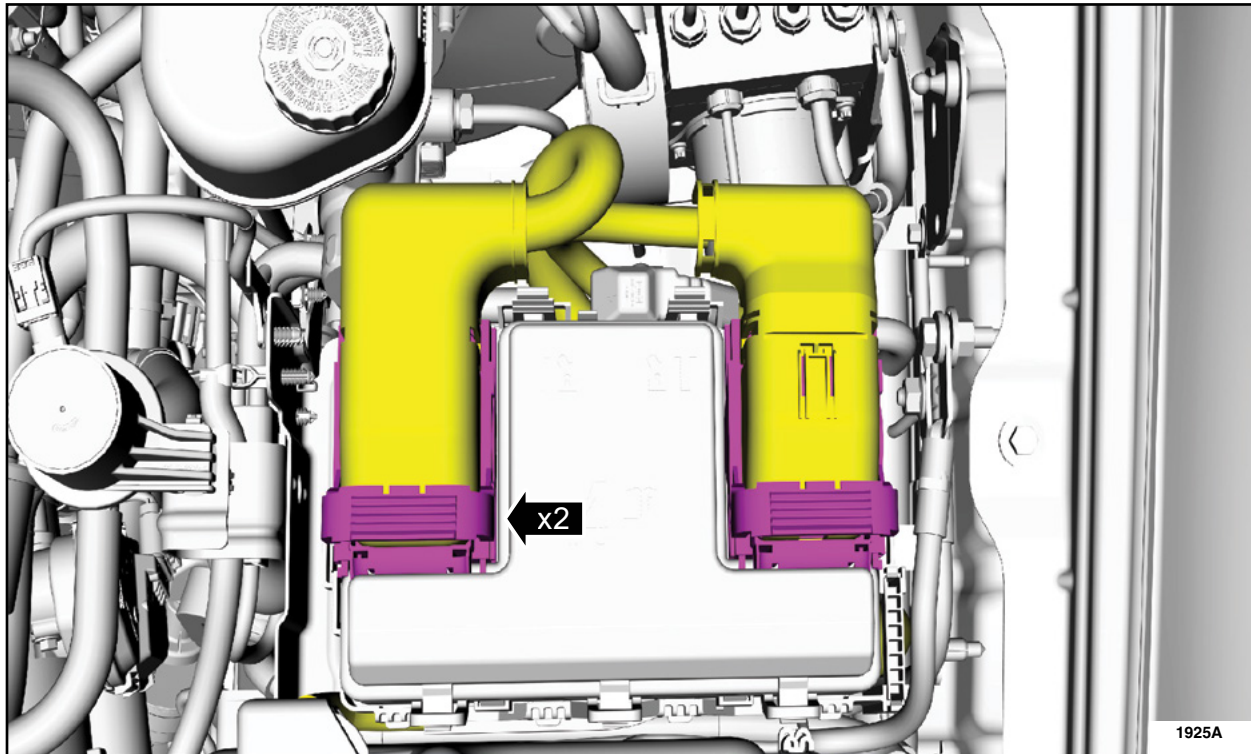

FIGURE 22
23. Install the electrical connectors on the battery junction box. See Figure 22.